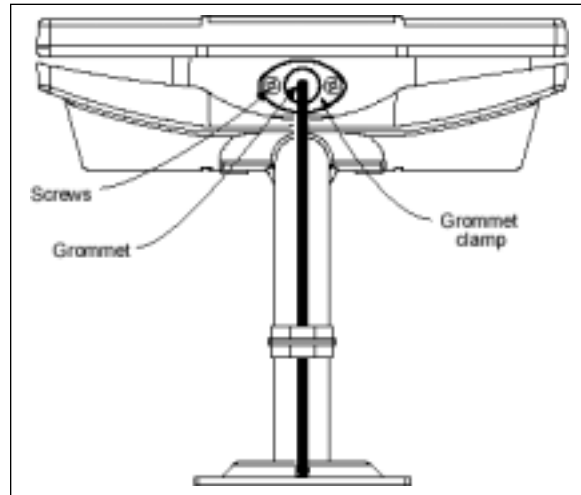

Figure 7-9 Grommet Location -- Underside of Subscriber Unit
1. Remove the grommet (Figure 7-9) and clamping plate from the Subscriber Unit by undoing the two screws. Be careful not to lose them if you are working on a ladder.